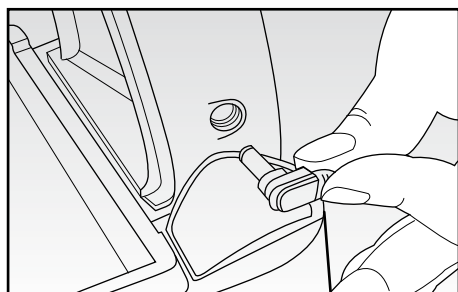

Fig. 6
- Insert the the charging adapter (I) into a mains power socket and the plug into the corresponding jack situated on the recharging base (G) (Fig. 6). The recharge light (D) situated on the removable body (F) will start flashing slowly, signalling the appliance is being charged.